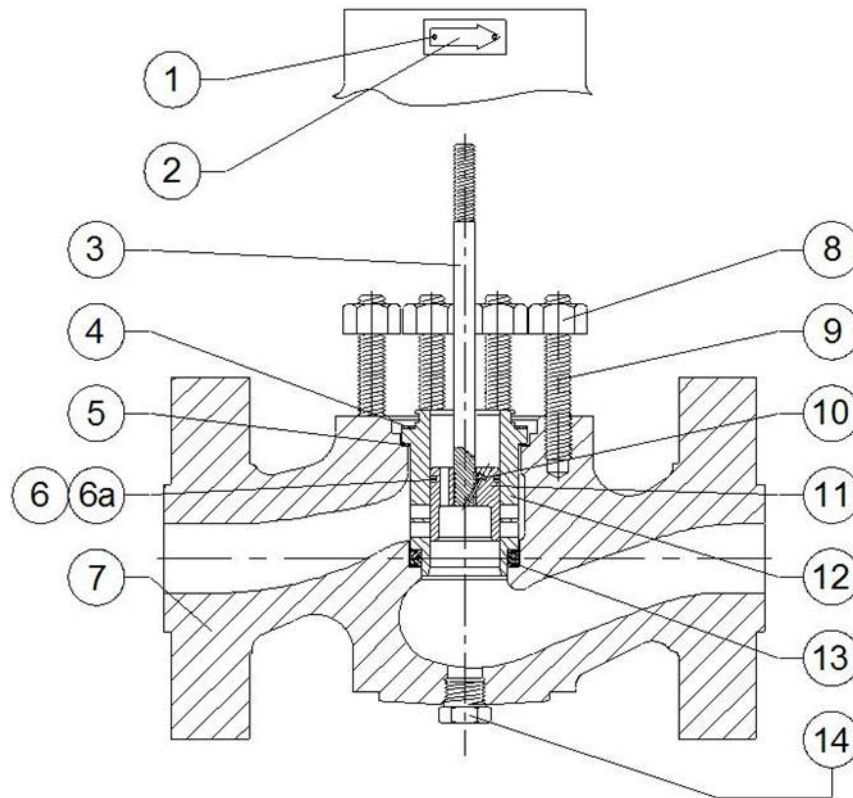
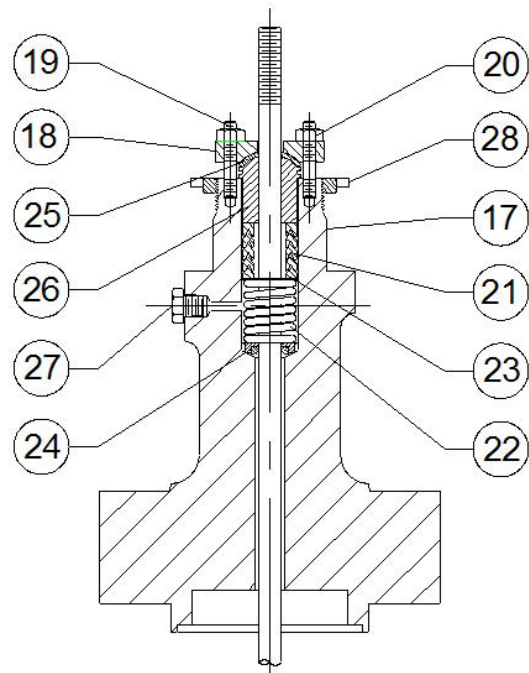
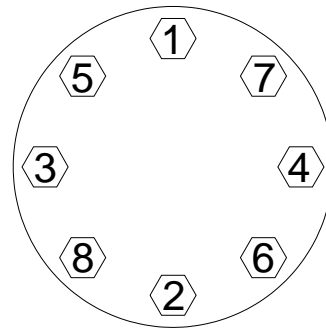

Figure 2: CVS H-900, H-1500 and H-2500 Valve Body Showing Design ED Trim
Figure 4: CVS H-900, H-1500 and H-2500 Standard Extension Bonnet
Figure 5: Typical Bolting Pattern
Body Parts (Figures 2 & 3)
Bonnet Parts (Figure 4)
These instructions refer to the replacement of single or double TFE V-Ring, Garlock and Grafoil packing. Key numbers refer to Figures 2, 3 and 4.
3. Unscrew the yoke locknut (Figure 4, Key 28) and separate the actuator from the bonnet (Figure 4, Key 17).
4. Remove the hex nuts (Figure 2, Key 8) and lift the bonnet (Figure 4, Key 17) and valve plug and stem assembly from the valve body (Figure 2, Key 7). Set those components on a clean surface and protect the gasket sealing serrations in the bottom of the bonnet. These serrations are essential for a tight seal between the body and bonnet during reassembly.
5. Remove the bonnet gasket (Figure 2 and 3, Key 4).
6. Loosen the packing flange nuts (Figure 4, Key 20) so the packing becomes loose around the stem.
7. Remove the hex nuts from the valve plug stem (Figure 2, Key 3) and pull the valve plug and stem assembly out of the bonnet. Place this assembly on a protective surface.
8. Remove the hex nuts (Figure 4, Key 20), the packing flange (Figure 4, Key 18), the packing follower (Figure 4, Key 26) and the felt wiper (Figure 4, Key 25).
11. Install a new bonnet gasket (Figures 2 and 3, Key 4) onto the cage (Figures 2 and 3, Key 12).
Note: The valve plug assembly of the ED and ET fit inside the cage with tight tolerances. When installing the valve plug assembly be sure not to damage the piston rings or the seal ring (Figures 2 and 3, Keys 6, 6a, 6b).
12. Insert the valve plug assembly in the cage, mounting the bonnet onto the body. Ensure that the leak-off piping (or pipe plug, Figure 4, Key 27) is facing downstream.
13. Apply lubricant to the body stud bolts (Figures 2 and 3, Key 9) and the hex nuts (Figures 2 and 3, Key 8). Thread the nuts onto the body stud bolts using good bolting practices. Refer to Table 3 for proper bolt torques and tighten the nuts in a criss-cross pattern (See Figure 5). When the control valve assembly reaches operating temperature, repeat the procedure. Proper tightening of the bonnet nuts ensures a positive sealing of the cage seals and the spring seal.
14. Refer to Figure 4 and arrange the packing parts as outlined. Slide the new packing carefully over the valve plug stem, and ensure that the packing parts are not damaged by the threads of the valve plug stem.